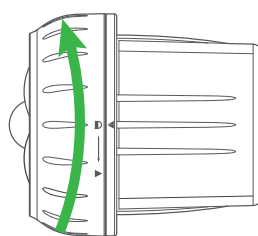

Figure 3
3. Align the ▲ marks then turn the front cover clockwise to the lock position ▢ to secure the battery compartment (see **Figure 3**).
3. Within 25 seconds, power up the spotlight by turning the front cover clockwise to the lock position ▼ to secure the battery compartment (see **Figure 3** on previous page). The Sensor Channel melody sounds with the corresponding Sensor Channel LED indicator blinking on the Indoor Alarm Receiver to confirm successful pairing.